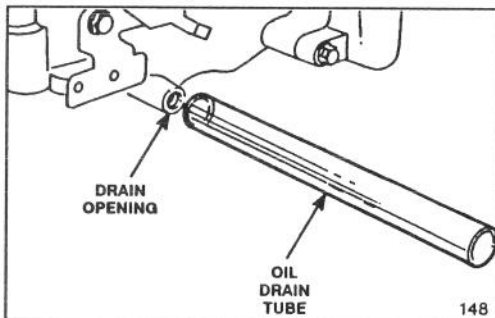

Figure 15
4. Insert oil drain tube over drain opening (Fig. 15) and lower mower. Raise right side of mower until all oil has flowed into drain pan.